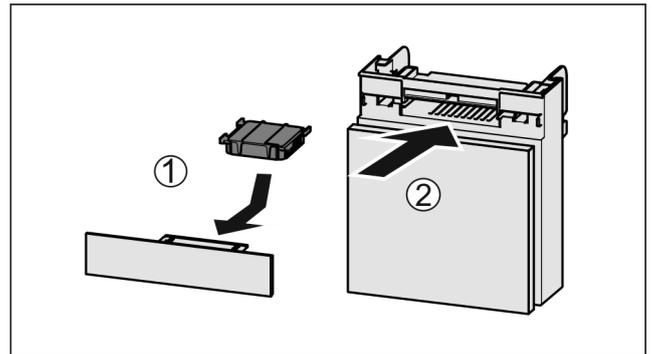

Fig. 176
- ▶ Insert the carbon filter as shown in the diagram Fig. 176 (1).
- ▶ Push the compartment in Fig. 176 (2).